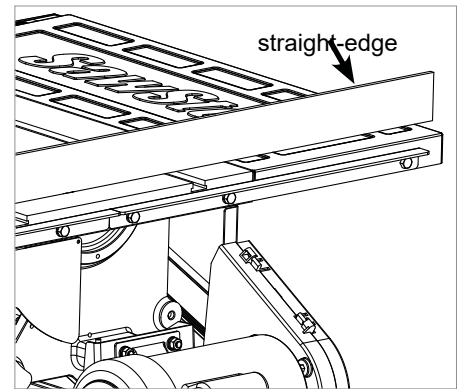

Fig. 7
7. Use a straight-edge to level the rear edge of the left extension wing to the cast iron table top (see Fig. 7). You may have to pull up or push down on the outer edge of the extension wing to level it. Once the rear edge of the left extension wing is level, use 13 mm wrenches to fully tighten the hardware that mounts the left rear rail. Repeat this process to level the rear edge of the right extension wing and to secure the right rear rail to the saw.